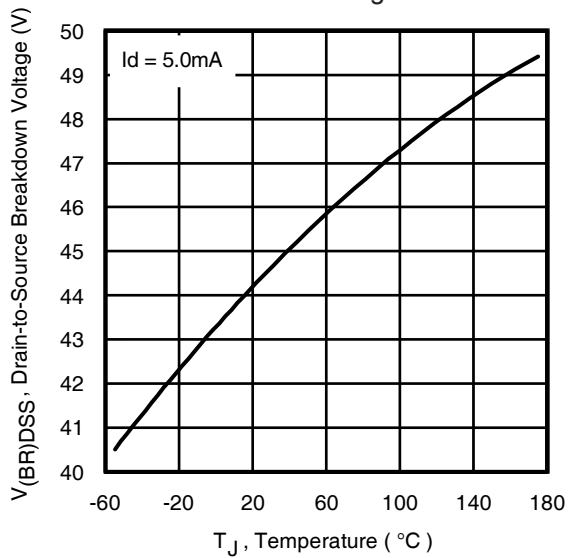

Fig 11. Drain-to-Source Breakdown Voltage
$V_{GS} = 0\text{V}, V_{DS} = 0\text{V to } 32\text{V}$ ④, See Fig. 11